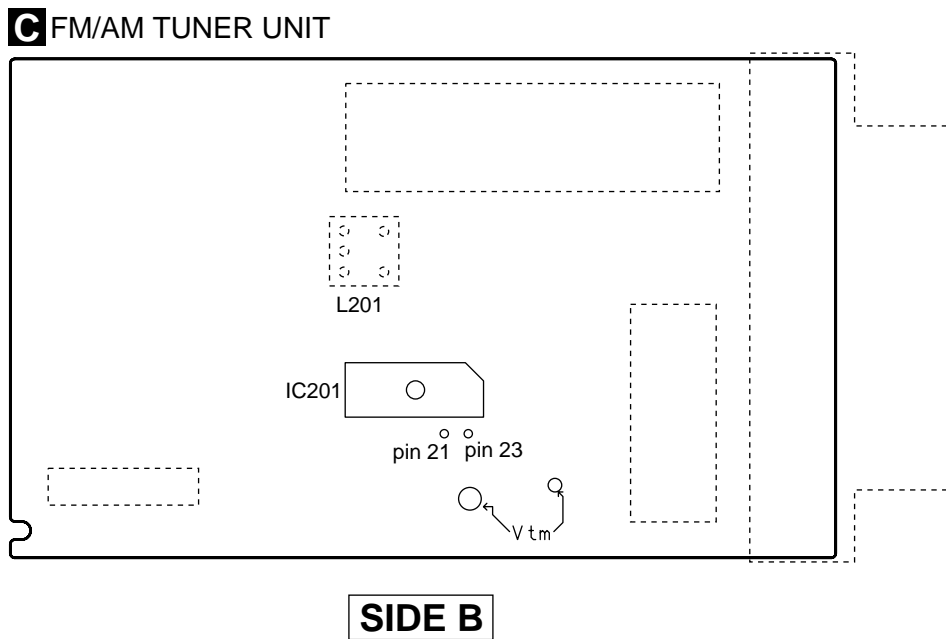

Fig.6.5 Adjustment Point
- Connect the wiring as shown in Fig. 6-5.